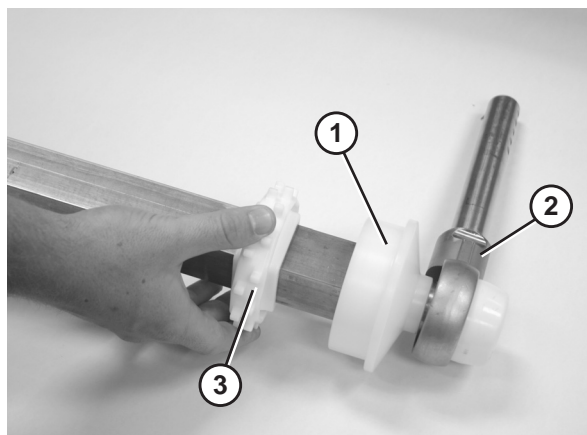

Figure 73
1. Attach a flanged puck (**Figure 73, item 1**) and bearing shaft assembly (**Figure 73, item 2**) to the shorter end of the drive spindle.
2. Slide the first sprocket (**Figure 73, item 3**) onto the drive spindle.